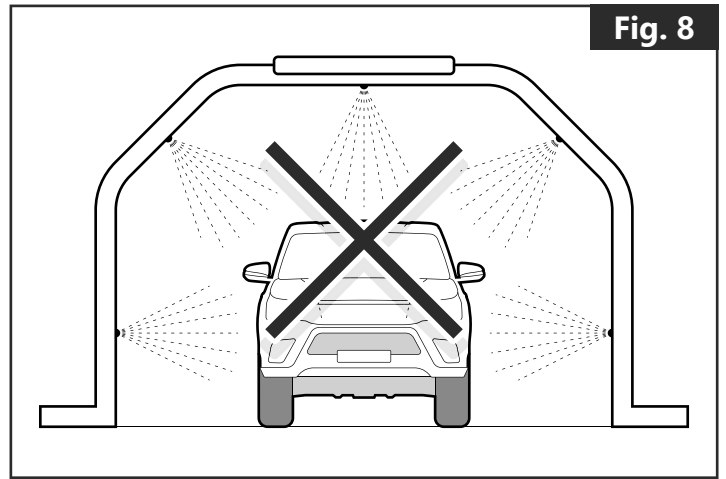

Fig. 8
- We do not recommend washing the Roll cover in a brushless carwash, as the coating may be damaged due to use of chemicals. **(Fig. 8)**